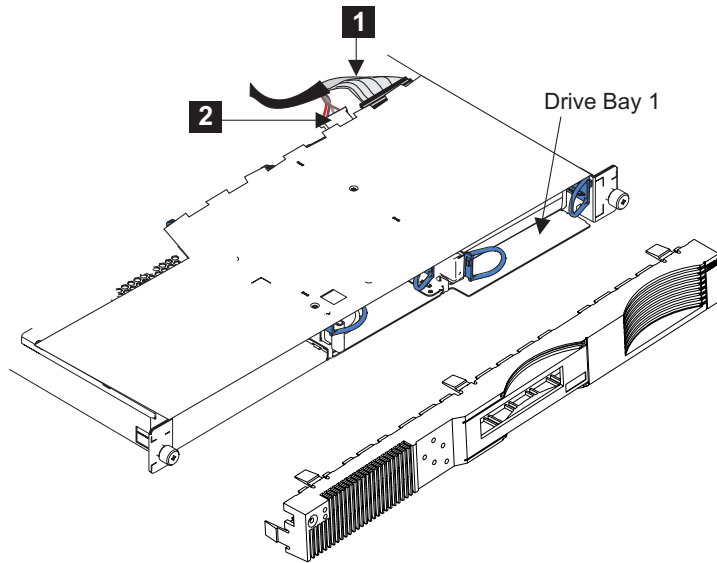

Figure 130. Replacing the SAN Volume Controller 2145-4F2 disk drive cables
1. Connect the SCSI signal connector **1** and the power connector **2** to the back of the disk drive, as shown in Figure 130 on page 404, and then replace the cable.